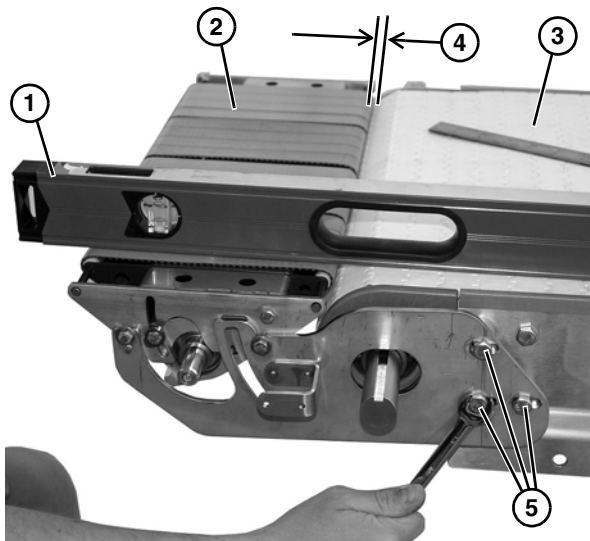

Figure 12
- To adjust location, place level (**Figure 12, item 1**) or straight edge to level power transfer assembly (**Figure 12, item 2**) with conveyor belt (**Figure 12, item 3**). Be certain that there is a minimum 1/8 - 1/4 in. distance (**Figure 12, item 4**) between power transfer and conveyor belt, and tighten three bolts (**Figure 12, item 5**) to secure position.